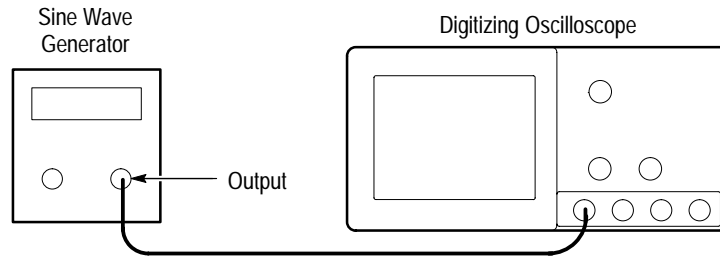

Figure 4-6: Initial Test Hookup
- Connect the sine wave output of a sine wave generator to **CH 1** (see Figure 4-6). Set the output of the generator to a reference frequency of 10 MHz or less.